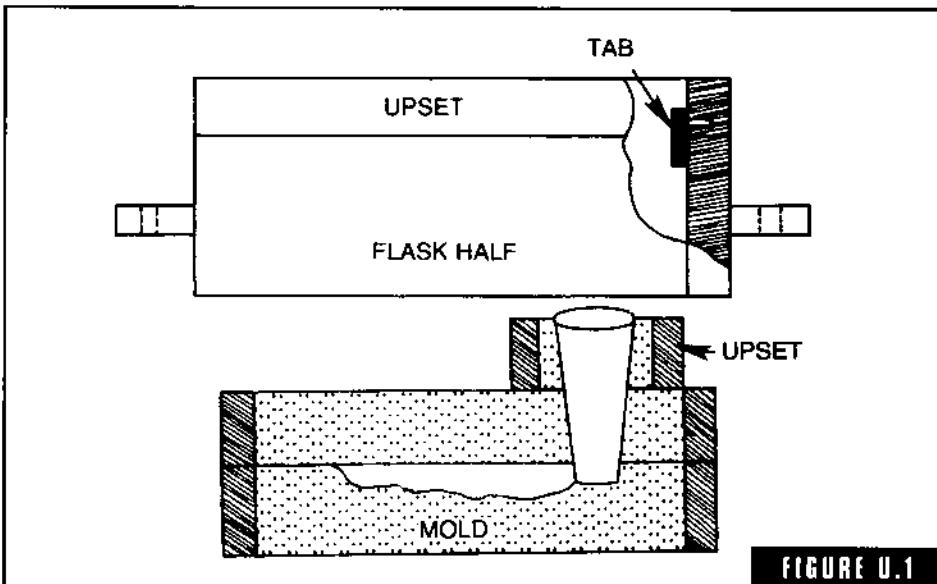

FIGURE U.1
**upset** Any frame metal or wood used to increase the depth of the cope or drag (Fig. U-1). On a snap pop-off or slip flask it is usually screwed to the flask. In the case of rigid wood or metal flasks, they usually have tabs which extend down inside the flask being upset in place during molding and pouring. A square or round frame used to increase a sprue or riser height is also referred to as an upset.